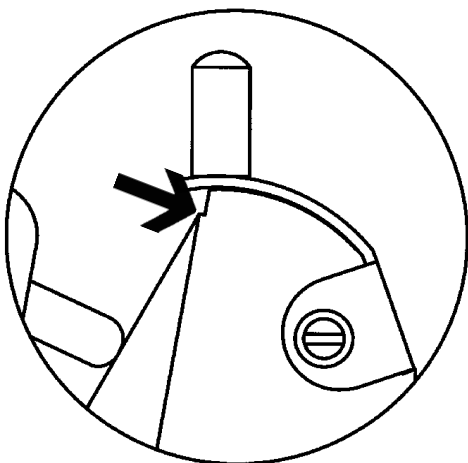

Fig. 60.2
- Turn the knurled wheels (6) in opposite directions to the rear to position the knife edge parallel and at the level of the locating edge (Fig. 60.2) of the rear clamping jaws.
- To clamp the knife (4), tighten the two clamping screws (2) uniformly by turning them clockwise.